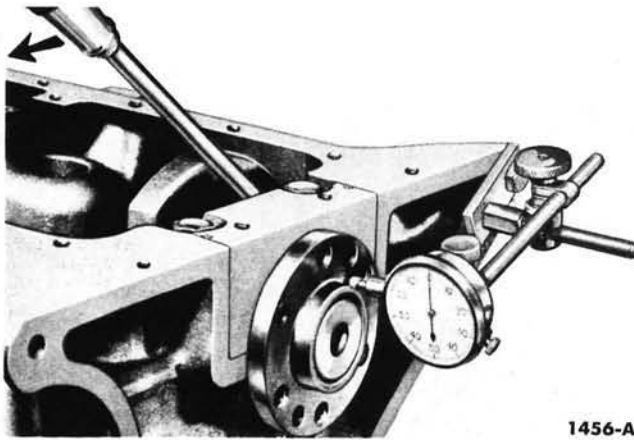

FIG. 38—Crankshaft End Play
5. Force the crankshaft toward the rear of the engine. Install a dial indicator so the contact point rests against the crankshaft flange and the indicator axis is parallel to the crankshaft axis (Fig. 38). Set the dial on zero, then push the crankshaft forward and note the reading on the dial.